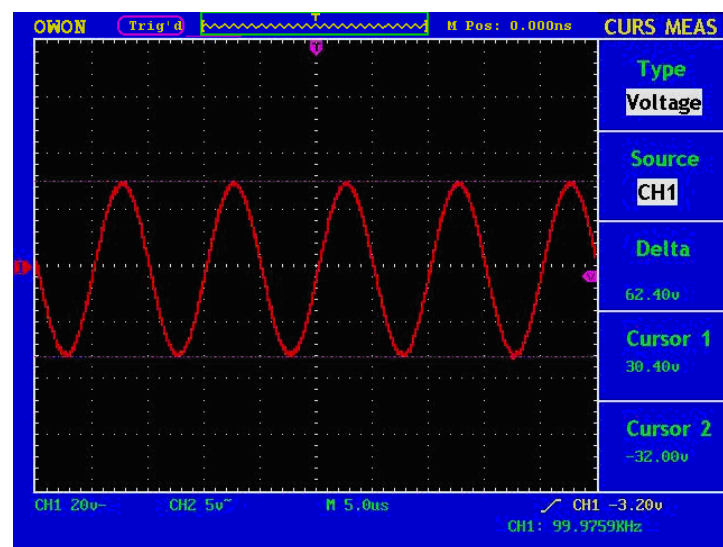

Fig.5-46 Waveform of Voltage Cursor Measurement
- Press **F2** to select **CH1** as the **Source**. The results are shown on the screen. (See Fig.5-46).